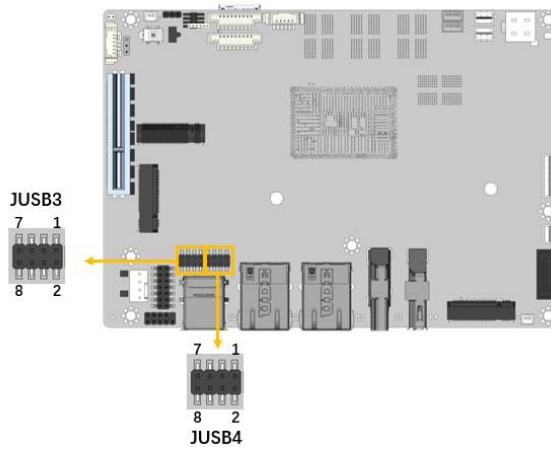

Figure 3-23: Internal USB 2.0 Connectors Locations
- CN Location:** See **Figure 3-23**